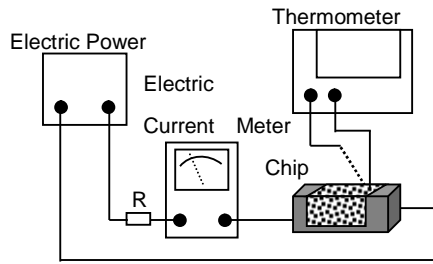

Fig. 5.3.3-1
- d. Definition of Rated Current (I_r): I_r is direct electric current as chip surface temperature raises just 20°C . against chip initial surface temperature(T_a). (see Fig. 5.3.3-2):